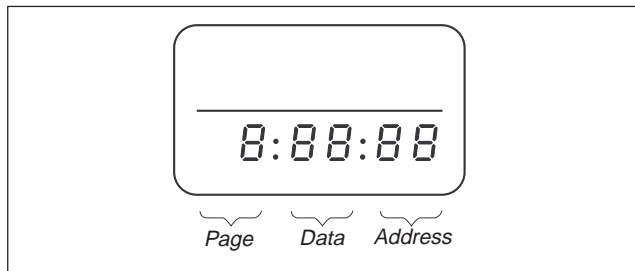

Fig. 5-4-1.
- 2) Set the HOLD switch of the adjustment remote commander to “HOLD” (SERVICE position). If it has been properly connected, the LCD on the adjustment remote commander will display as shown in Fig. 5-4-1.